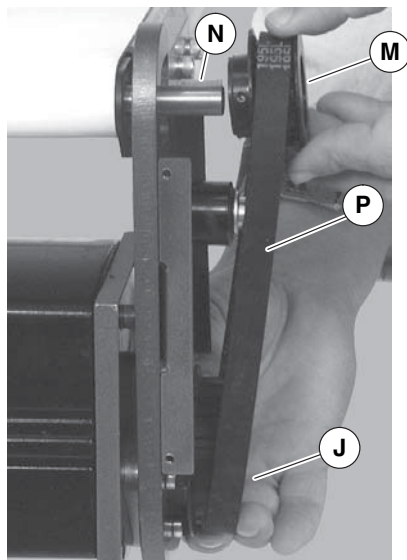
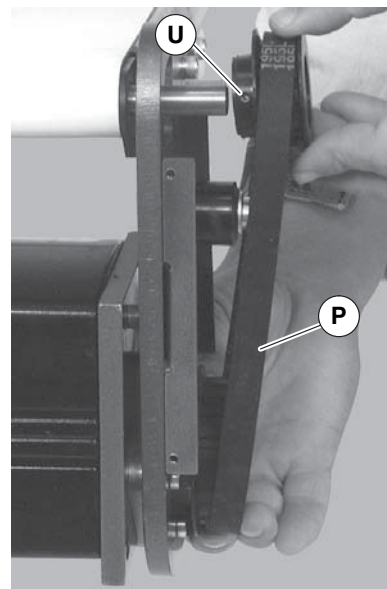

Figure 11
Figure 16
5. Install key (Figure 11, item N).
3. Remove timing belt (Figure 16, item P).
If timing belt does not slide over pulley flange, loosen driven pulley set screws (Figure 16, item U) and remove pulley with belt (P). For re-installation, see steps 6 and Figure 11 on page 11.
5. Depending on direction of conveyor belt travel (1 or 2 of Figure 11), position belt tensioner (V) as shown. Tension belt to obtain 0.125" (3 mm) deflection for 1.0 lb (456 grams) of force at belt mid-point (W). Tighten tensioner screw to 103 in-lb (12 Nm).